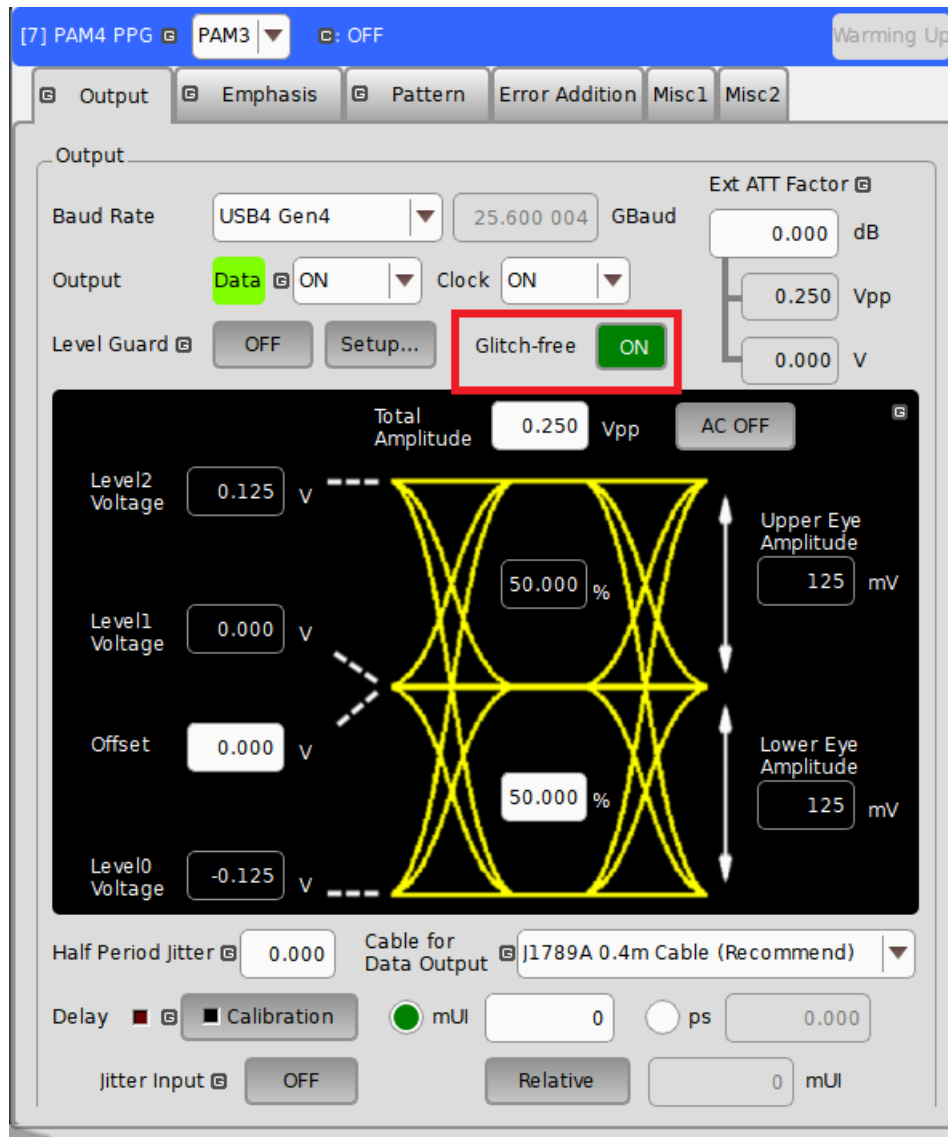

FIGURE 69. TURN ON GLITCH-FREE
- xix. Turn on Glitch-free. See Figure 69.